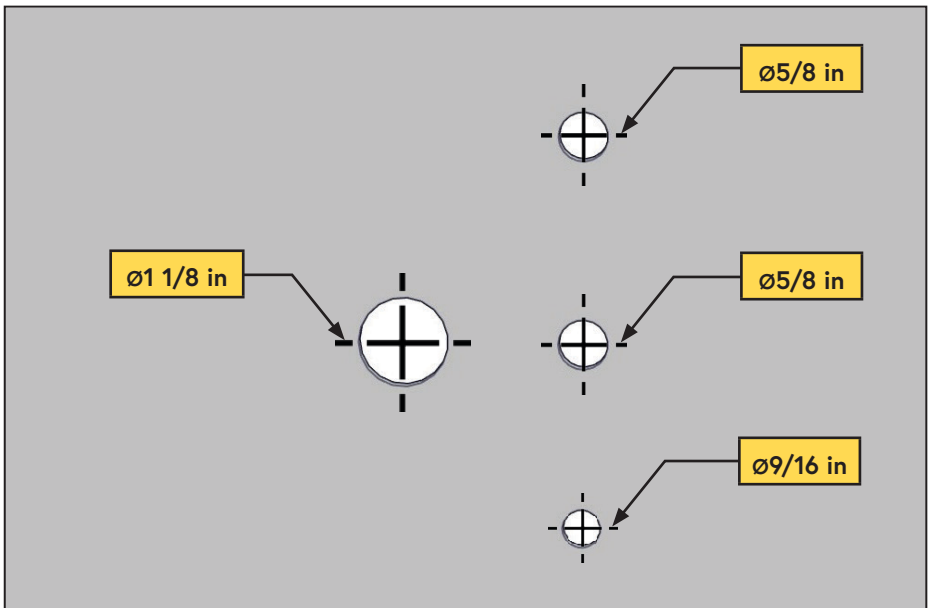
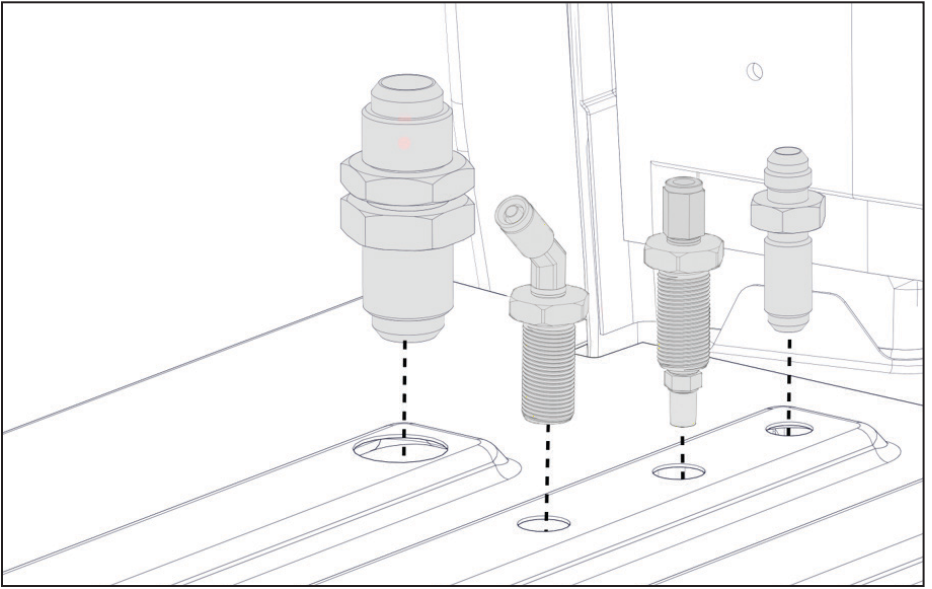
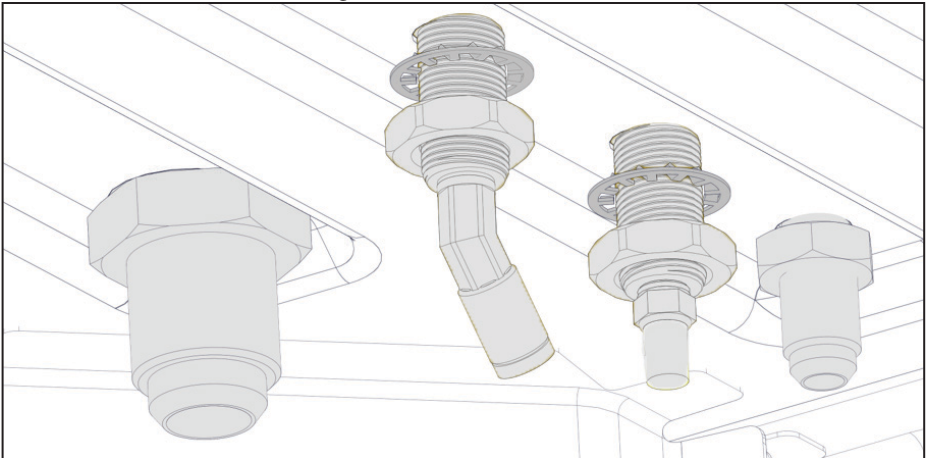

Figure 29 — Hole diameter
Figure 30 — Interior View
Figure 31 — Exterior View
Drill the bulkhead fitting holes using a drill, step drill or hole saw. Leave enough room between the fittings to allow access for a wrench (Figure 29, Figure 30, Figure 31):
- Fit the bulkhead fittings through the top of the hole and secure from the bottom with the supplied nuts. Apply Loctite 567 (thread sealant) when installing the 1/4 in push-to-connect fittings in the bulkhead fittings (Figure 30, Figure 31).